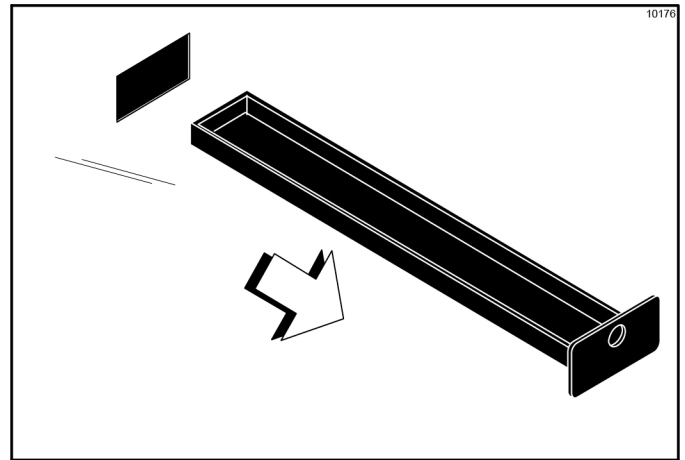

Figure 6-64
8. Remove the drip pans and take them to the sink for cleaning. (See Figure 6-64.)